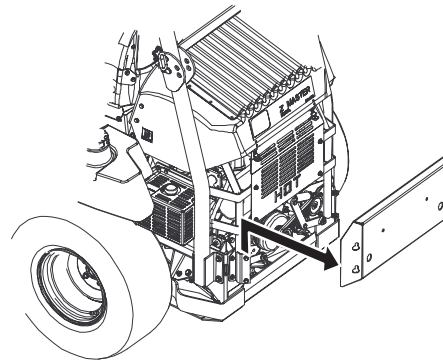

Figure 73
3. Remove the rear engine panel (Fig. 73).
1. Remove the rear engine panel (Fig. 73).